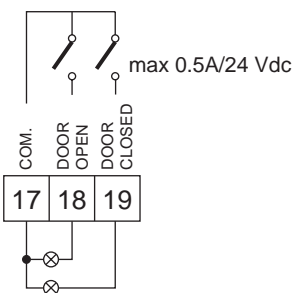

Fig. 20
- 17. **Status signal output: Common (fig. 20)**
- 18. **Door open signal output** (max. contact capacity 0.5 A / 24 Vdc) (fig. 20)
- 19. **Door closed signal output** (max. contact capacity 0.5 A / 24 Vdc) (fig. 20).
Terminals 17/18 and 17/19 can be used to power two 24 Vdc (max. 0.5 A) warning lamps to provide door open and door closed signals respectively (fig. 20).